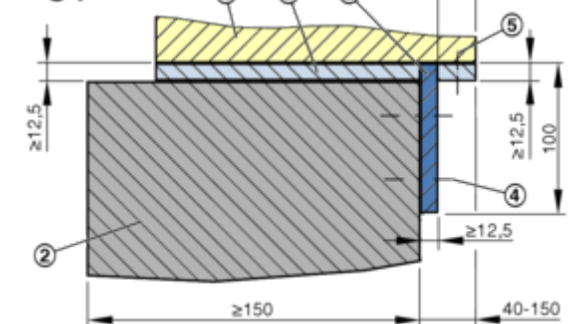
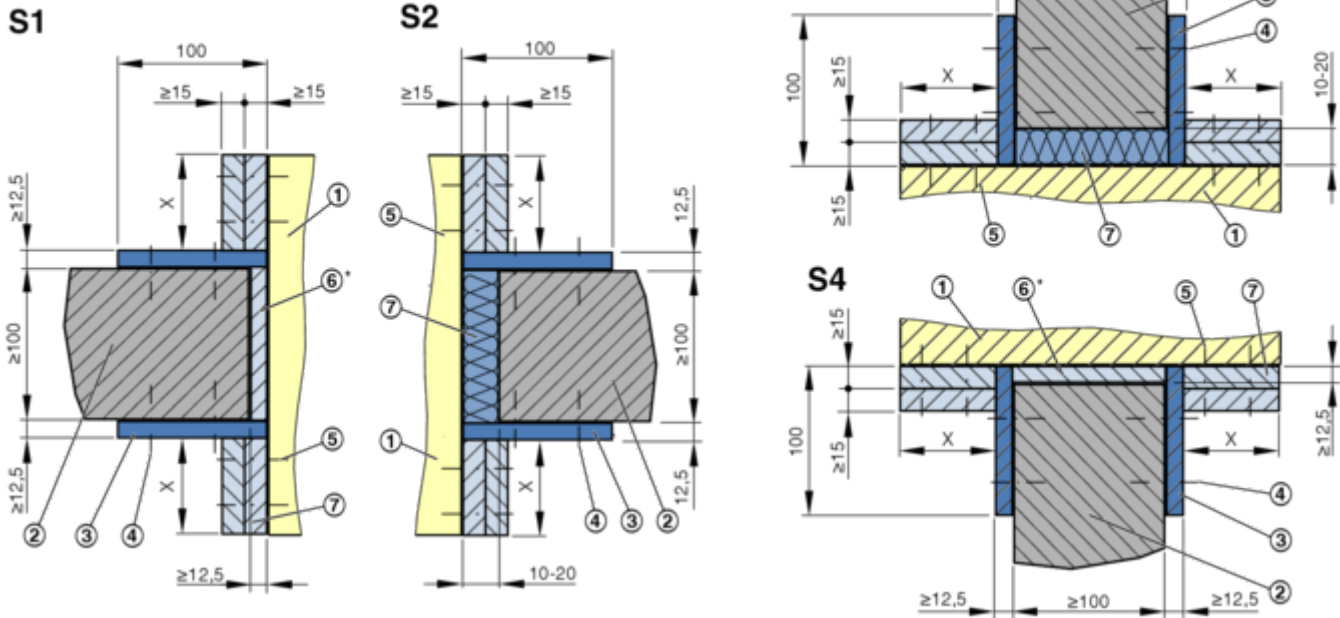

Fig. 23: Details EK-JZ dry mortarless installation in solid wall, solid shaft wall EI 90 S
Fig. 24: Details EK-JZ Dry mortarless installation in solid wall, solid shaft wall EI 120 S, legend ↪ Fig. 23
Angle section ↪ Fig. 23 , Fig. 24
- EI 90 S v_{ew} : angle sections on both sides of the wall, 1 strips ≥ 12.5 mm, ↪ Fig. 23
- EI 90 S v_{edw} : angle section on operating side (shaft wall), 1 strip ≥ 12.5 mm, ↪ Fig. 23
- EI 120 S v_{ew} : angle sections on both sides of the wall, 2 strips ≥ 15 mm, ↪ Fig. 24
- Cavities are stuffed with mineral wool or rock wool (7).